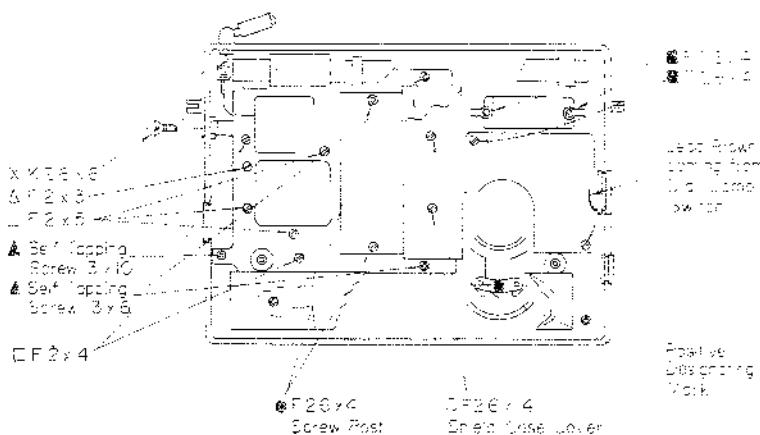
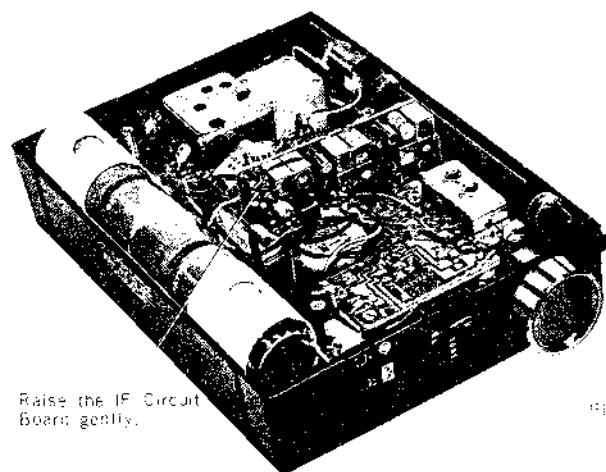

Fig. 3
Fig. 4.
- (1) Remove the three Back Cover Holding Screws (K 2.6 X 4) to remove the Back Cover.
- (2) Take out all the Batteries.
- (3) Remove a Battery Cylinder Holding Screw.
- (4) Unsolder the FM Loading Coil at the Telescopic Antenna Terminal.
- (5) Unsolder the following wires.
- (6) Remove the Volume Control Knob and the Tuning Knob by pulling straight out.
- (7) Pull out the two black tip from the Bar Antenna Holders.
- (8) Remove the Ferrite Bar at the right side of the Bar Antenna Holders.
- (9) Remove the three screws marked with ▲ in Fig. 3.
**Note:** Take care that the screws, A and B in Fig. 3, are different in length. So never fail to use the specified screws to the original positions in re-assembling the Chassis.
- (10) Remove a screw (K 2.6 X 6) marked with ♦ in Fig. 3.
- (11) Remove the EXT POWER IN Jack from the Cabinet by pulling straight out.
- (12) Take out the Chassis from the Cabinet gently taking care not to cut the leads.
- (1) Unsolder the three leads (a red, a yellow and a black) going to the Volume Control.
- (2) Unsolder the two leads (a brown and a black) going to the Multi-Jack.
- (3) Remove the four screws marked with ■ in Fig. 3.
- (4) Unsolder the lead (brown) at the AF Circuit Board coming from the Dial Lamp Switch.
- (5) Remove the AF Circuit Board from the Cabinet gently taking care not to hit the leads.
- (1) Remove the IF Shield Case Cover.
- (2) Remove the two Screws marked with ▽ in Fig. 3.
- (3) Attach temporarily the IF Shield Case to the Chassis with the two Screws removed in preceding step (2).
- (4) The IF Circuit Board can be removed by raising it gently as shown in Fig. 4.
- (1) Remove the Chassis as outlined under " Removal of Chassis ".
- (2) Remove the IF Circuit Board from the Chassis.
- (3) Remove the screw and the screw post marked with ● in Fig. 3.
- (4) Remove the AM Tuner Circuit Board from the Chassis gently taking care not to cut the leads.
- (2) Set the Pointer to the upper end by turning the Tuning Knob. (near the 1,600 Kc)
- (3) Remove the Dial Cord from the Pointer.
- (4) Unscrew the two screws marked with □ in Fig. 3 and remove the Dial Scale from the Chassis.
- (5) Pull out the Tuning Gear for AM from the Tuning Capacitor and remove the two AM Tuning Capacitor Holding Screws.